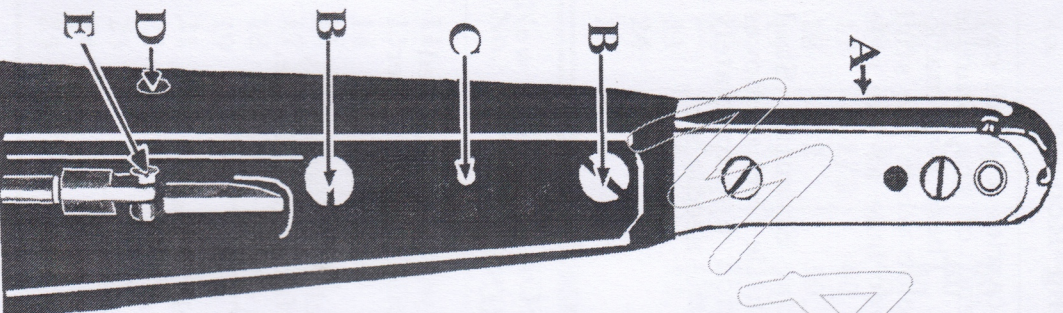

Fig. 21.
Remove the machine head from the treadle stand or power bench by taking out the four screws. The machine head should now be tipped up and supported with the horn in a vertical position, the underside facing the adjuster. Parts can be examined or removed from the rack box by taking out the two screws (F) and removing the cover plate. The following parts are then exposed: long rack (J), short rack (K), intermediate pinion (L), shuttle driving pinion (H), needle plate locating pin and spring (M), all of which can be removed without disconnecting the rack box from the machine. To take out the shuttle carrier, remove the small set screw in the shuttle carrier pinion by inserting a small screw driver through the groove (G) at the side of the rack box. The shuttle carrier can then be pressed through the pinion. To remove the long rack, insert a screw driver through the hole (D, Fig. 21) and take out the screw. Before proceeding to withdraw the rack, remove the pinion (L), then grip the rack and draw it in a straight-away manner towards the pulley end of the machine. The short rack (K) and shuttle driving pinion (H) can be removed without difficulty. When replacing any one or re-assembling the whole of these parts, care must be taken to see that the gears and racks are correctly emmeshed, as shown in the illustration (Fig. 20).
(See Fig. 21)